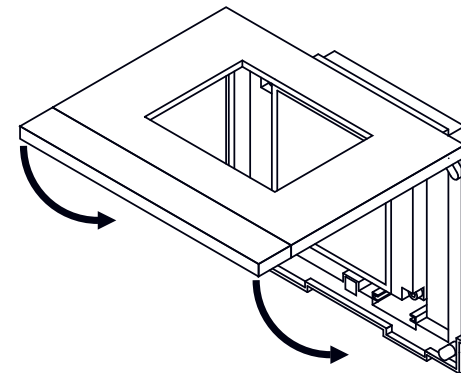

Fig. 66
4. Attach the frame and secure it using the enclosed screw (Fig. 66).